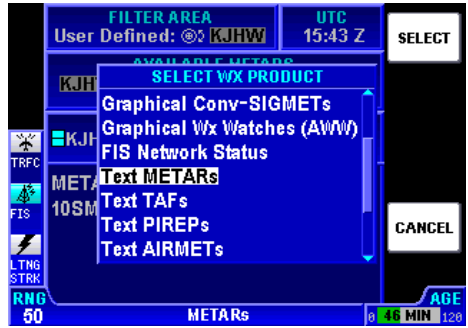

Figure 2-57
1. Press the **CHOOSE PRODUCT** Softkey to display the **SELECT WX PRODUCT** window as shown in Figure 2-57.